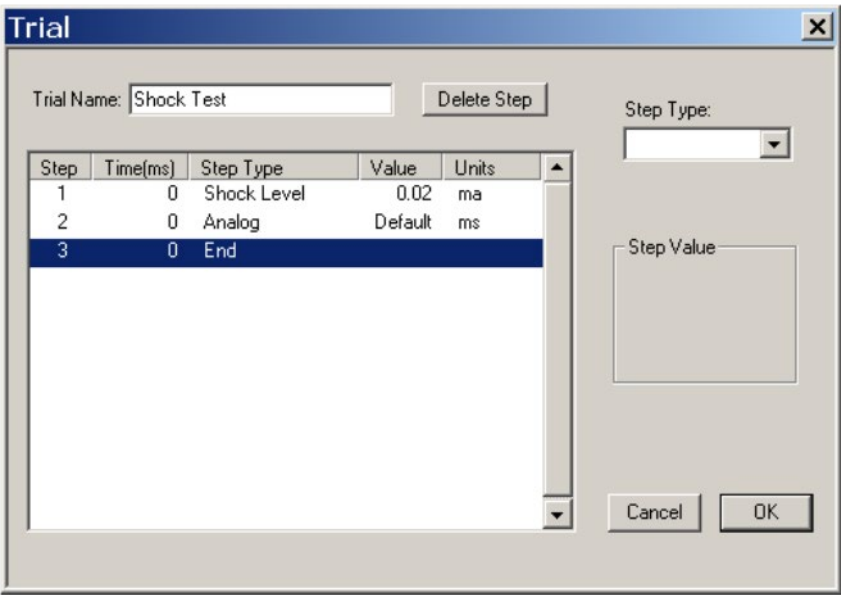

Figure 51 Step-by-Step Trial Example 5
6. Select **End**. The **Trial** screen will appear as shown in Figure 51.